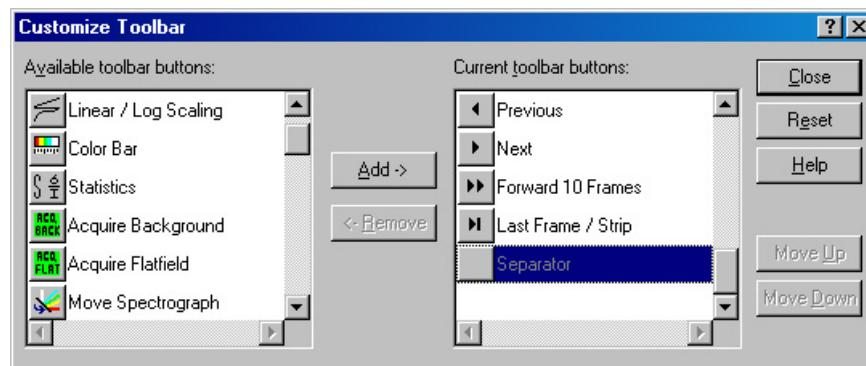

Figure 197. Customize Toolbar dialog
Although the **Custom Toolbar** defaults with the buttons shown in Figure 196, many additional buttons are in fact available and can be added to the button using the Customize Toolbar dialog (Figure 197). Buttons can be added or removed at any time and the new configuration will be saved when the dialog is closed.
2. Referring to Figure 197, note that the buttons available for placement on the **Custom Toolbar** are listed on the left. Buttons already on the toolbar are on the right.
2. Referring to Figure 197, note that buttons already on the toolbar are listed on the right. Available but unused buttons are listed on the left.